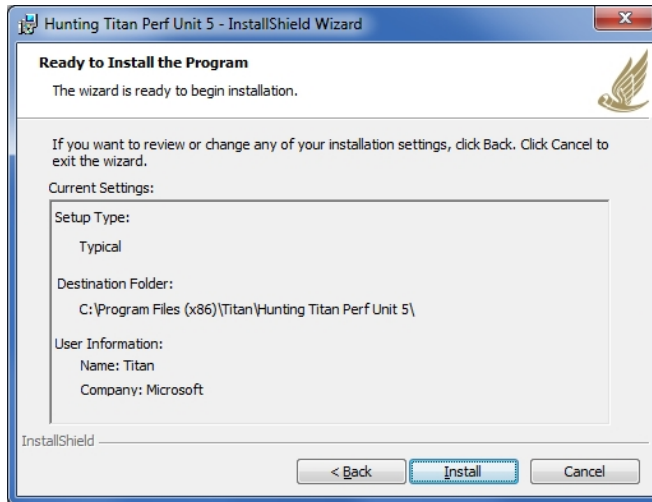

Figure 8
9. The “Ready to Install the Program” screen appears. Click Install as shown in Figure 8.